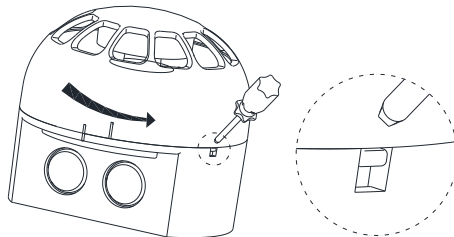

Fig. 1: Disconnect audio/visual alarm device from the backbox
1. Remove the audio/visual alarm device from the backbox using a small screw driver to disable to latch, then twisting the device counter-clockwise (see Fig. 1).